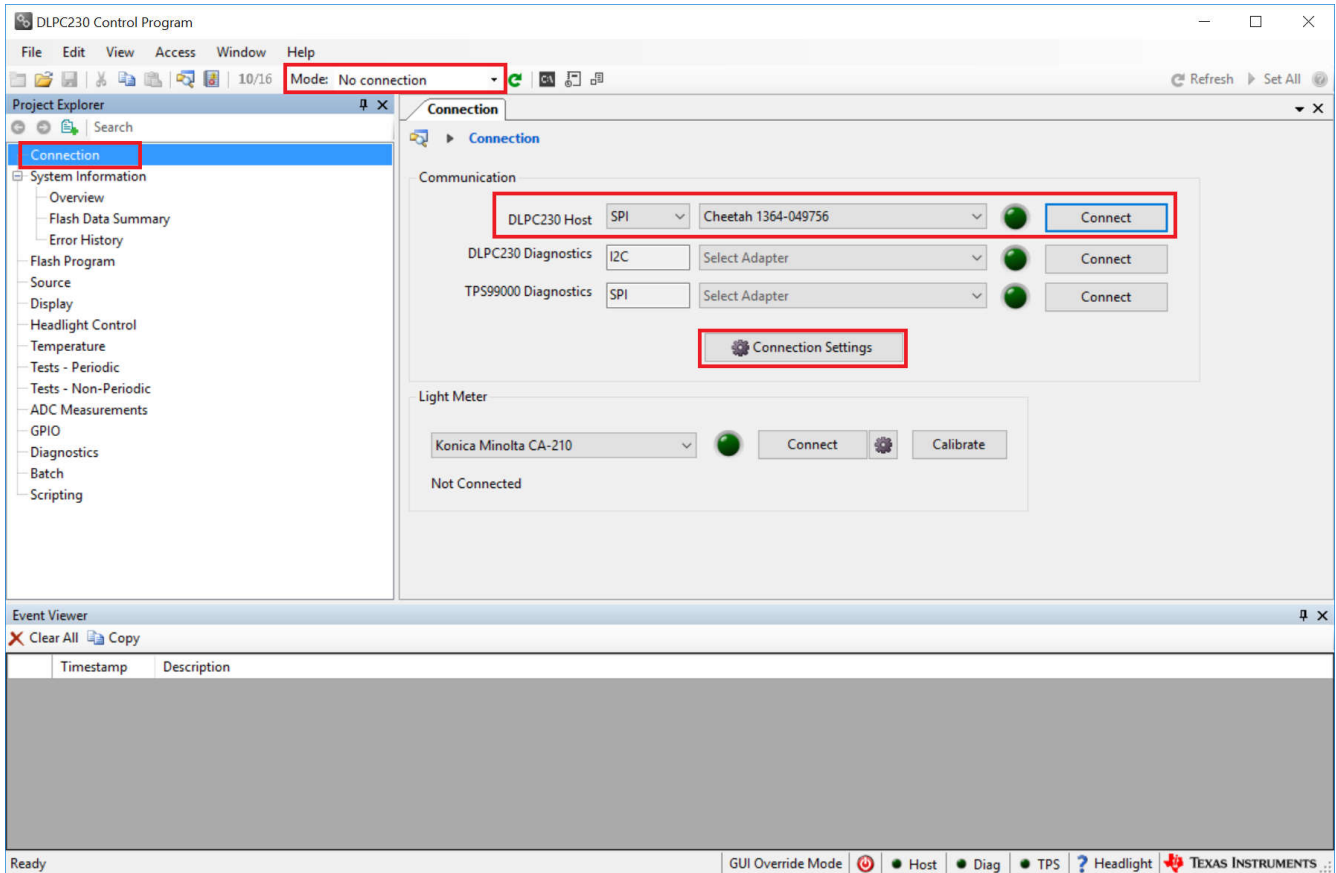

Figure 2-2. Connecting to the DLPC230-Q1 Using the DLPC230-Q1 Automotive Control Program
- On the connection page set the DLPC230-Q1 Host to SPI and select the Cheetah from the drop down menu (see Figure 2-2). Note that the Cheetah must be connected to computer with USB cable for it to show up in the drop down box.